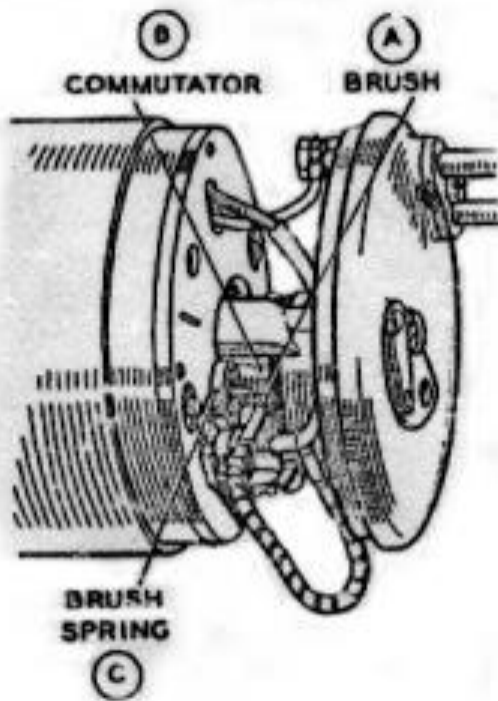

Fig. 58. Dynamo with cover band removed to show brush gear.
(f) Remove the dynamo cover band and examine the brushes (A, Fig 58) and commutator (B). Hold back each of the brush springs (C) and move the brush by pulling gently on its flexible connector. If the movement is sluggish, remove the brush from its holder and ease the sides by lightly polishing on a smooth file. Always replace brushes in their original positions. If the brushes are worn so that they do not bear on the commutator, or if the brush flexible is exposed on the running face, new brushes must be fitted.